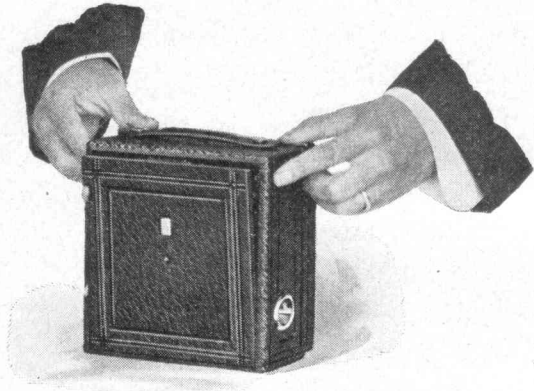

FIG. 1
1. Press the concealed buttons as shown in Fig. 1, and push down the bed of camera to the limit of motion.